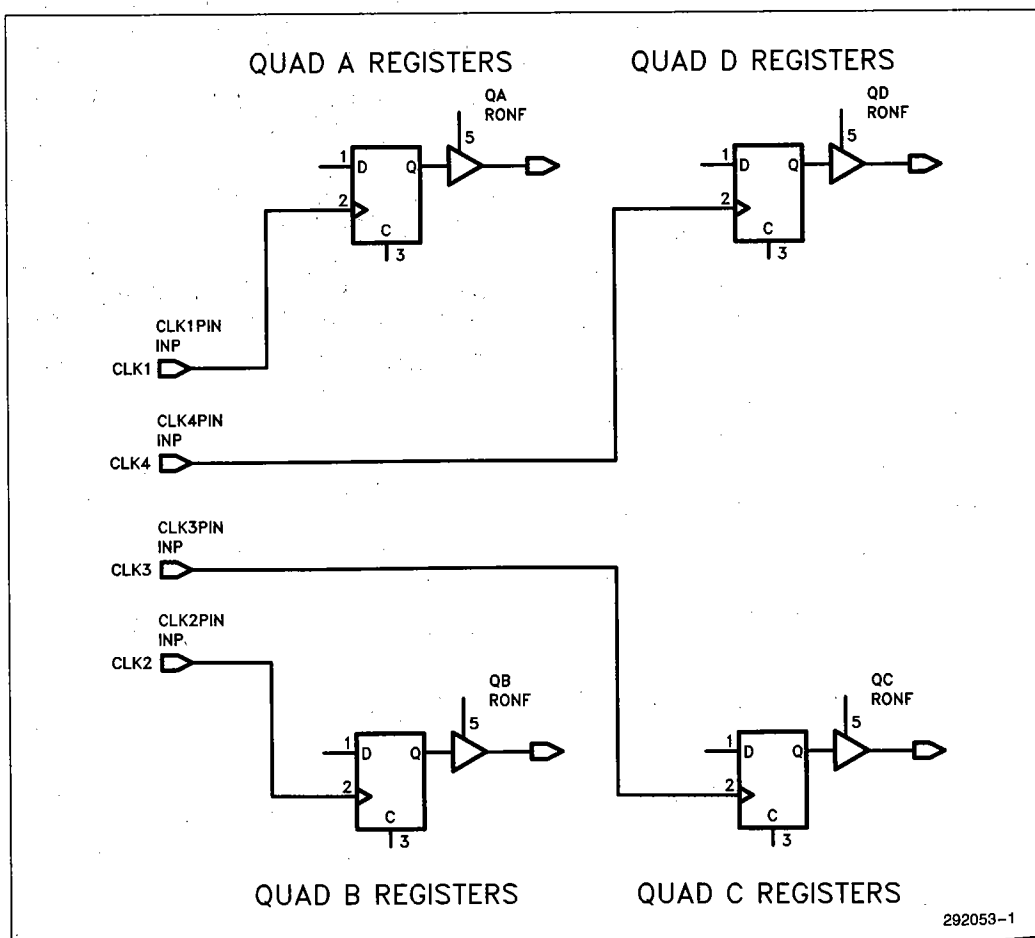

Figure 1a. Summit One—Input Clocks Before
**HELP:** Run all synchronous clocks through Clock Buffers (CLKBs). Shared clocks may use the same CLKB output which may result in reduction from 4 CLK input pins to 1 CLK input pin (see Figures 1a &